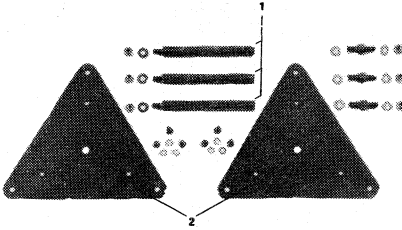
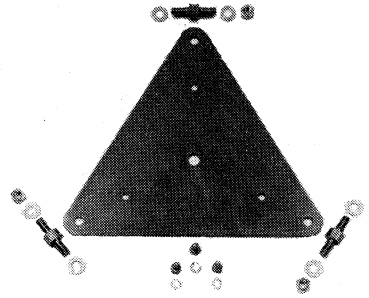
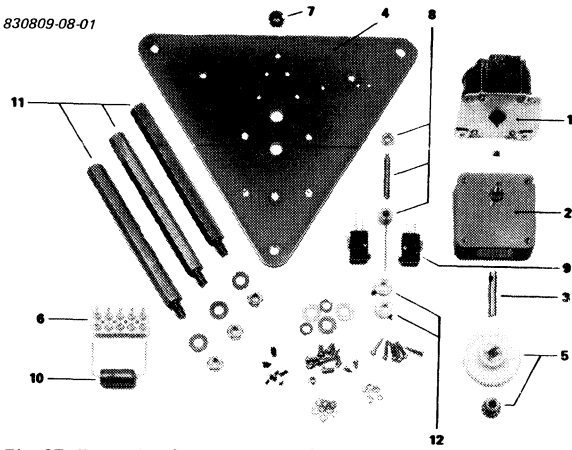

Fig. 25 Example of components of ganging unit;
Fig. 26 Example of components of base plate assembly.
Fig. 27 Example of components of motor drive kit;
- A) For **mechanical ganging** order ganging unit (Fig. 25) and spindle; see columns 4 and 5 of the table.
- B) For **motor drive of single transformers** order base plate assembly (Fig. 26) and motor drive kit (Fig. 27); see columns 6 and 7 of the table.
For **motor drive of ganged transformers** order ganging unit (Fig. 25) spindle, base plate assembly (Fig. 26), if required, and motor drive kit (Fig. 27); see columns 4, 5, 6 and 7 of the table.